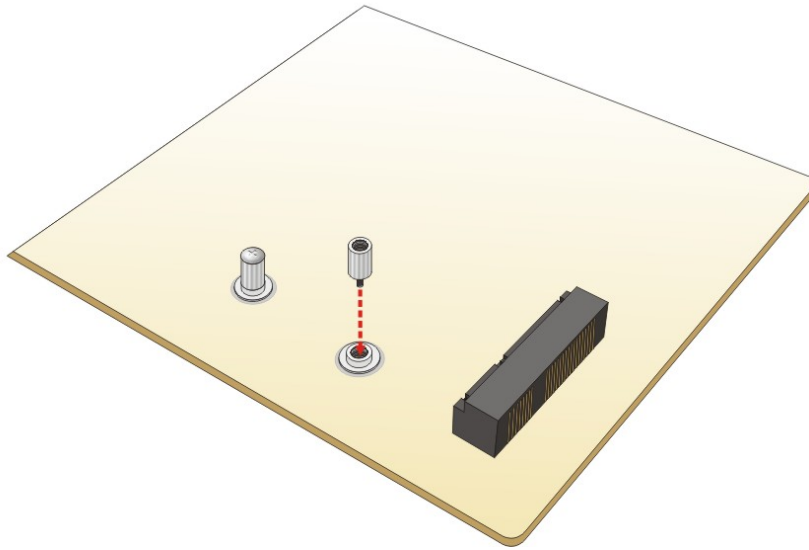

Figure 4-5: Installing the Standoff
Step 2: Install the standoff to the screw hole for the half-size PCIe Mini card. Install the supplied standoff to the screw hole for the half-size PCIe Mini card (Figure 4-5).